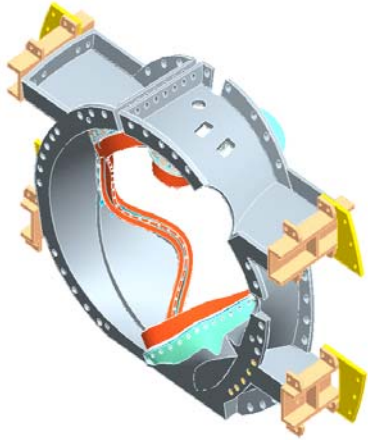

Figure 2-Mounting support brackets to casting
- 6.5.1 Mount the appropriate support brackets to the casting that will allow the winding form (MCWF) to be joined with the Turning Fixture support ring. (Figure 2-Mounting support brackets to casting)